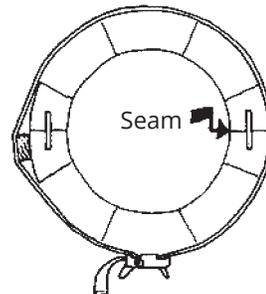

Figure 9
2. Cut blocks to use under band clamp opposite any areas that have expanded out of round (Fig. 9).